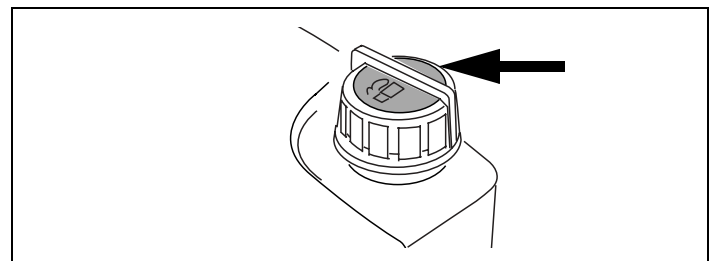

Figure 46. Fuel Fill Cap
2. Be sure fuel fill cap is on and tightened securely. See Figure 46.